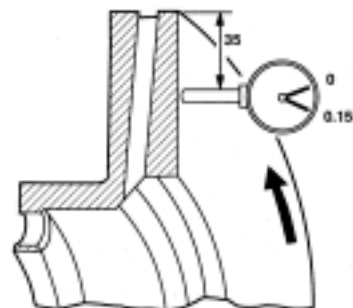

Fig. 20
- With the disc installed measure the runout by rotating the hub as shown in Fig. 20 Limit 0.15 mm .